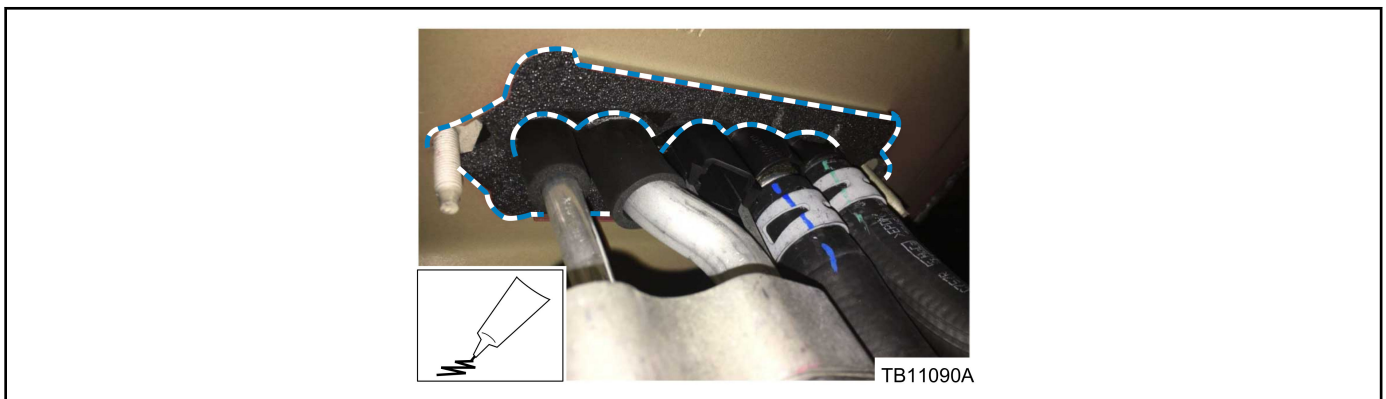

Figure 22 - Article 17-0044
- a. Rear evaporator inlet line seal viewed from underneath. Inspect for gaps and seal if needed with Motorcraft® Seam Sealer. (Figure 22)